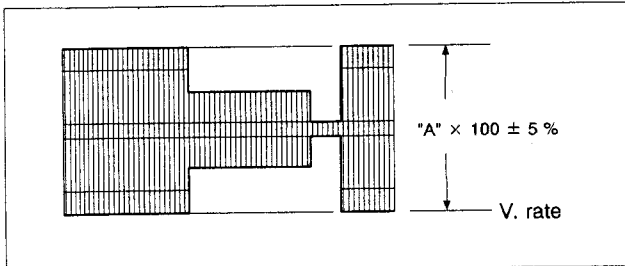

Fig. 3-1-20 EP REC color level
- 6) Adjust R49 repeatedly in recording so that the higher channel level is "A" × 100 ± 5 % in playback, as in Fig. 3-1-20.